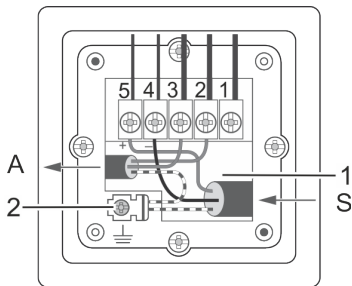

Fig. 5: Housing base CG7
12. Insert the earth connection wire into the earth contact (Fig. 5/2).
14. For “eco CG7”: Thread the connection wires into the device through the cable feed-through (Fig. 5/1).